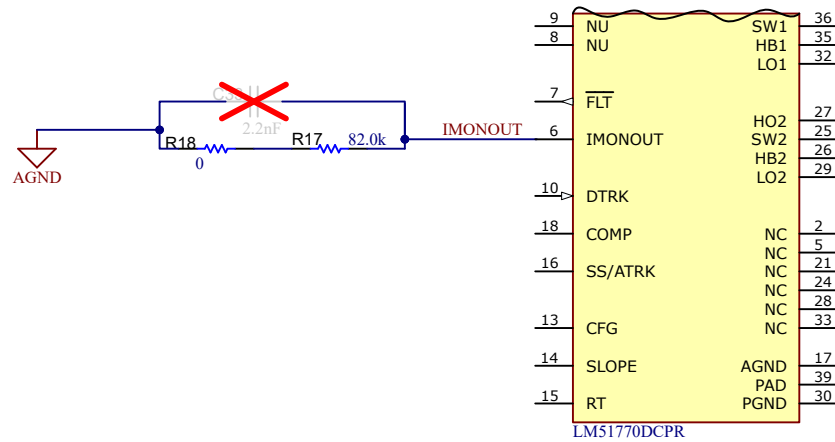

Figure 2-1. IMONOUT components for current monitor
- IMONOUT with resistor to GND - see Figure 2-1